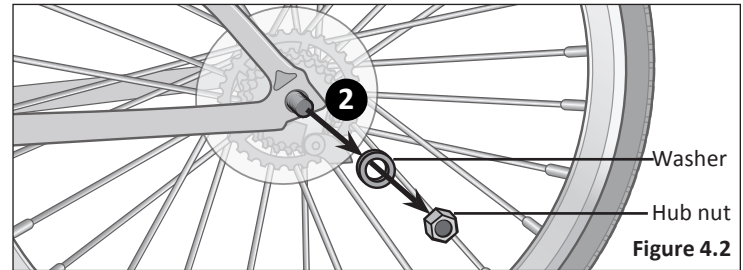

Figure 4.2
- 2 Using a wrench, remove the hub nut and washer from the bicycle's back wheel. **Figure 4.2**